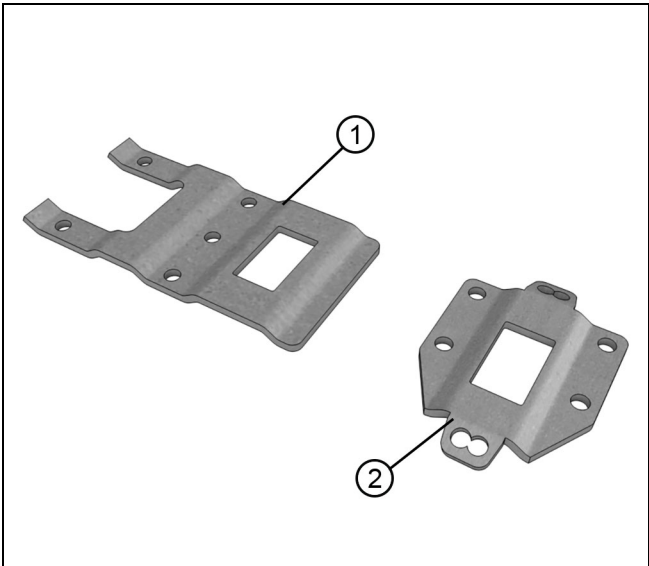
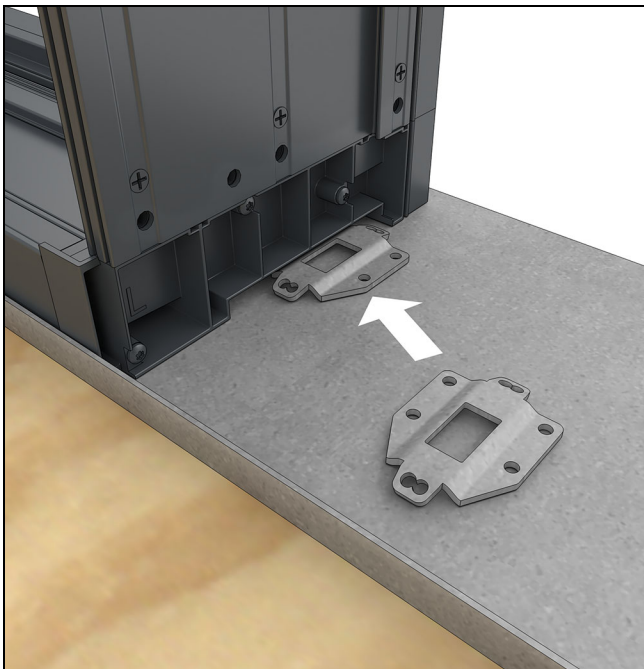

Figure 14
Figure 15
3. Temporarily position the mull bracket on the sill. You will need to shim to get the bracket to the correct height if the unit does not sit flat on the sill plate. The bracket should sit flush with the bottom of the frame/shim block. See Figure 14 and Figure 15.